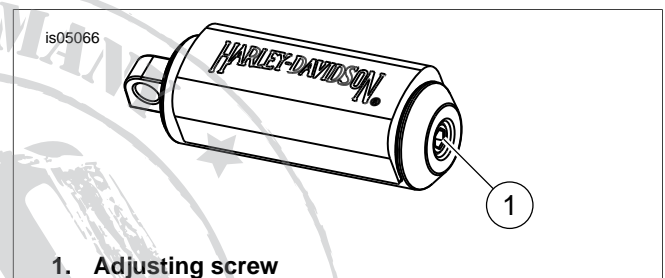

Figure 1. Footpeg Adjusting Screw
4. See Figure 1. For each footpeg, position the footpeg as desired, then righten the adjusting screw (1) to 21 ft-lbs (29 Nm).